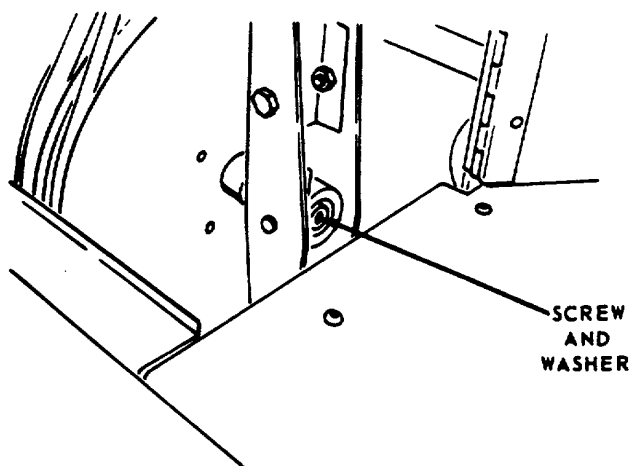

FIGURE 121
- (b) See Figure 121. Using 5/8" hex wrench, remove Screw and Washer from back end of feed rod.